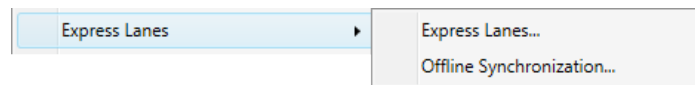

Figure 3-14 – Express Lanes Menu
- **Express Lanes Menu**(see Figure 3-14): This option allows the operator to manage Express Lanes Configuration, Events, Segments, and Rate Schedules; the software is described in detail in Section 3.3.9.